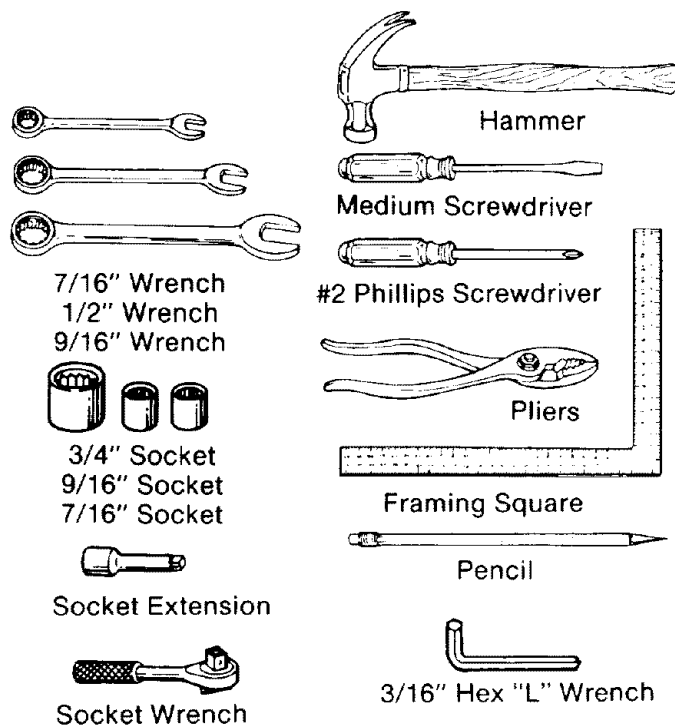

Fig. 12 - Tools Required
3. Identify the tools required for assembly. Make sure that you have all of the tools you will need. (Figure 12)